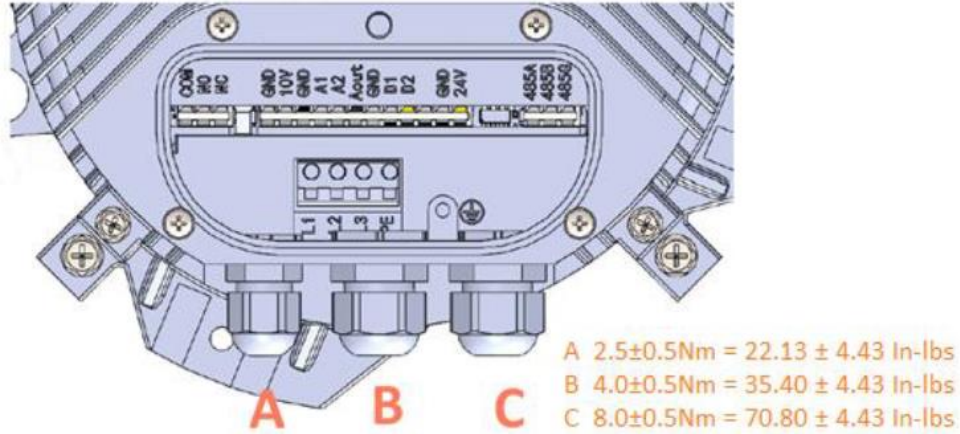

Figure 33. Tightening Torques for Cable Gland Caps
14. Reinstall cable gland caps with the tightening torque shown in **Figure 33**. Make sure all cable glands not in use are fitted with dummy plugs. Ensure that the cable glands are sealed and there is no strain on the connections. Proper installation of cable gland caps is critical to maintain weatherproof rating of the unit. If the above procedure is not followed, damage due to water ingress will occur.